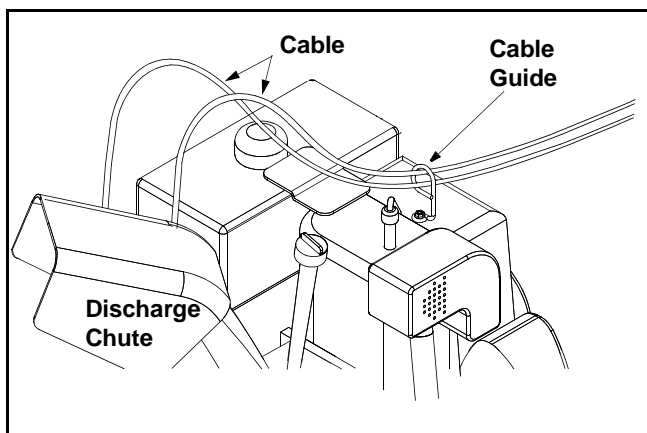

Figure 3
- If not already attached, slip the cables that run from the handle panel to the discharge chute into the cable guide located on top of the engine. See Figure 3.